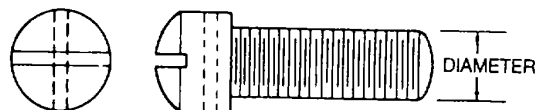

Figure 2-39. Fillister Head Screw
(3) **Fillister head screws.** Use general purpose fillister head screw, MS35265 and MS35275 coarse thread, and MS35266, fine thread, as capscrews in light mechanisms, such as for attaching cast aluminum gearbox cover plates. These screws have no grip, and those larger than No. 6 have one hole drilled through the head for safe tying. Fillister head screws, AN502, fine thread, and AN503, coarse thread, are heat treated. They have a small grip and are used as capscrews where greater strength is required. The coarse threaded screws are commonly used as capscrews in tapped aluminum alloy and magnesium castings because of the softness of the material. Fillister head screws are shown in figure 2-39.